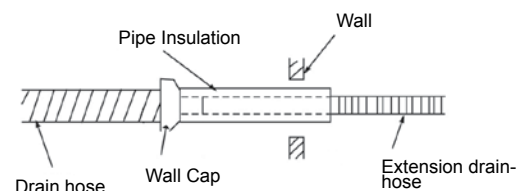

Fig. 13
- B. When extending the drain hose, with locally purchased hose, insulate the connection with armafex or similar pipe insulation material. (Fig. 13)